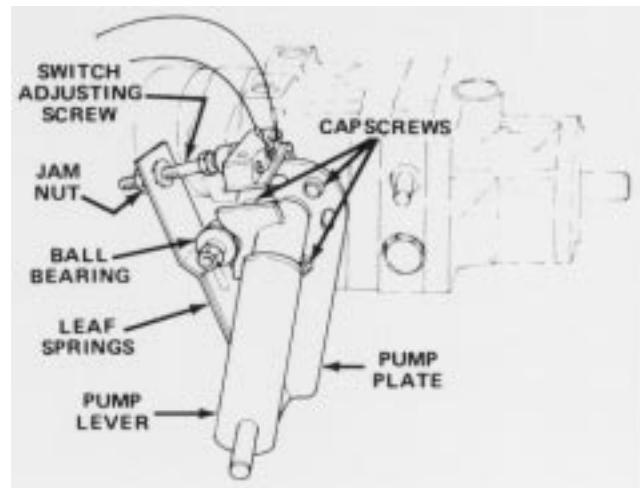

Figure 43
1. Park vehicle on a level surface and turn engine off. Apply the parking brake, tip seat forward, and actuate pump lever (Fig. 43) to insure assembly is properly seated and operating freely. Correct any discrepancy.
6. Because the wheel is rotating, the pump plate must be adjusted. But before adjusting the pump plate, move throttle to SLOW. If wheel is rotating forward, loosen capscrews, and lightly tap bottom of pump plate counterclockwise (Fig. 43). By contrast, tap pump plate clockwise if wheel is rotating backward (Fig. 43). When wheel stops rotating, tighten capscrews holding pump plate against side of transmission. Verify the adjustment with throttle in SLOW and FAST position.
- A. Ball bearing is loose or worn out (Fig. 43).
- F. Weak or damaged leaf springs (Fig. 43). Replace.
2. Actuate the pump lever (Fig. 43) to insure all parts are operating freely and seated properly.
3. Loosen jam nut. Rotate switch adjusting screw (Fig. 43) until there is a gap between head of screw and switch button.